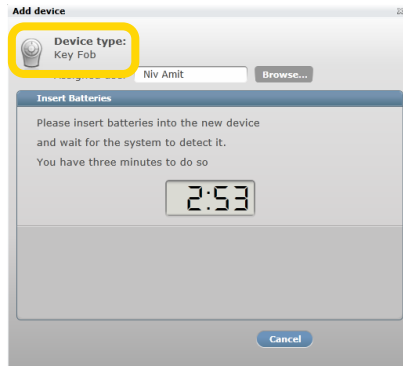

Figure 56: Add Device Window – Key Fob
7. **Add Device** window will pop-up (see Figure 56 below).
10. Select the specific User this Remote Control Unit (KF) should be assigned by clicking over its name.
11. Click over the **Select** button to assign the Remote Control Unit (KF) to its specified User.
12. The assigned User name will be displayed on the Add Device window (above Figure 56).
13. The timer will start its count-down. It provides a time-frame of three (3) minutes within which the battery should be installed.